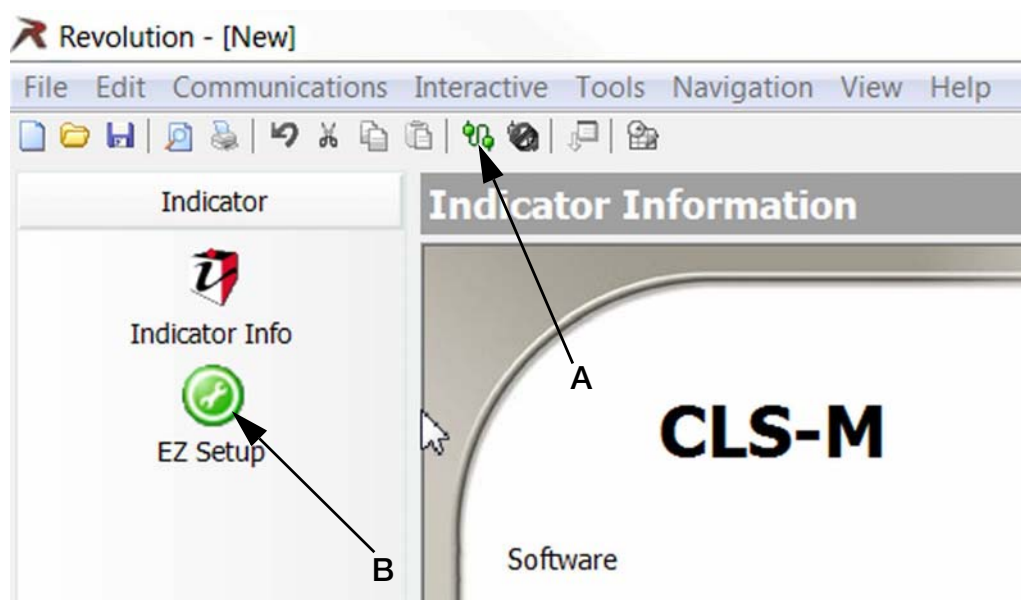
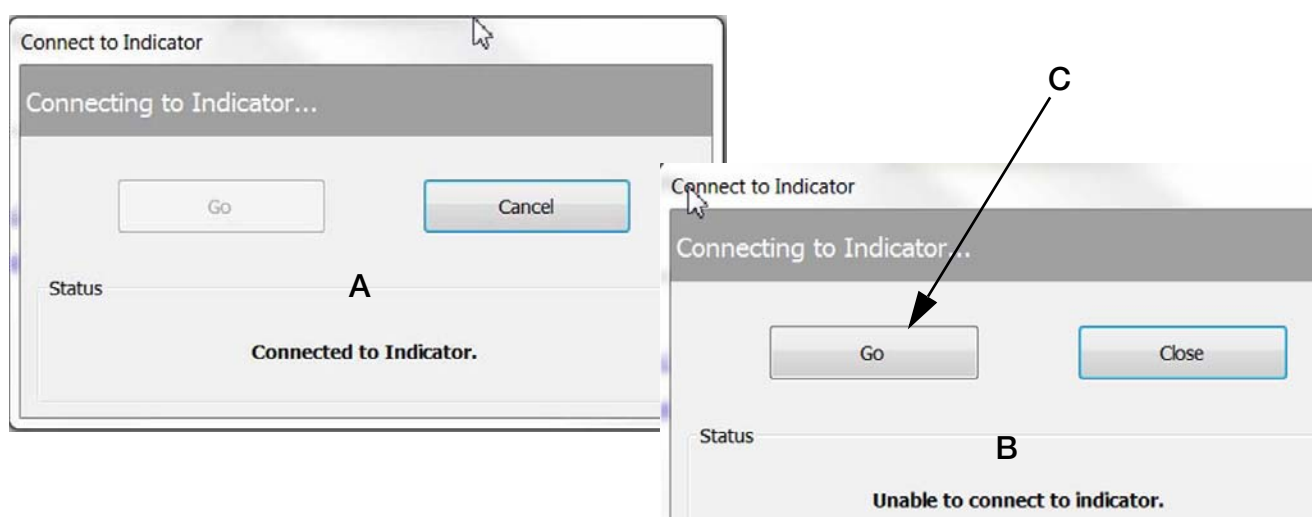

Figure 4-5. Connect Revolution
Figure 4-6. Connection Success/Failure
9. Select the connect icon from toolbar (Figure 4-5 A). A pop-up box comes up momentarily (Figure 4-6 A) to indicate the computer is now indicated to the box.
10. If it comes up as **Unable to Connect to Indicator** (Figure 4-6 on page 16 B) verify the Comm Port is correct and that the mobile PC is turned on. Then select **GO** (Figure 4-6 on page 16 C) to connect.